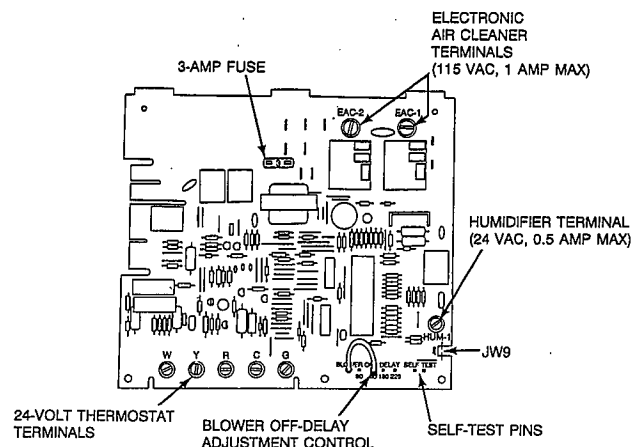
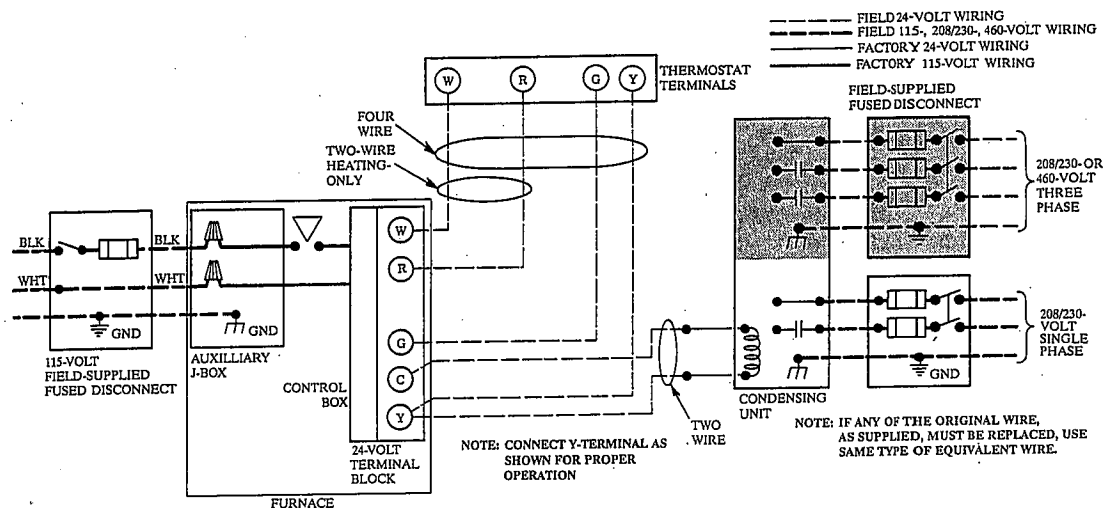

Fig. 11—Control Center
Fig. 12—Heating and Cooling Application Wiring Diagram
Make field 24-v connections at the 24-v terminal strip. (See Fig. 11.) Connect terminal Y as shown in Fig. 12 for proper operation in cooling mode. Use AWG No. 18 "color-coded" wire only.
1. Self-test—The furnace features a self-test system to help diagnose a system problem in the case of a component failure. Two test pins (ST-1 and ST-2) are located in the upper right-hand corner of the control board as shown in Fig. 11. To initiate the self-test procedure, momentarily short across the 2 pins (approximately 0.5 sec).